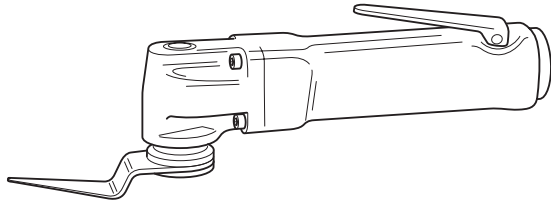

Fig 6. Pneumatic Knife
- a Pneumatic Knife. → Fig 6. \(□ B-6\). This provides one of the easiest methods of removing the sealant around laminated glass. The tool, powered by compressed air, should be sourced locally.